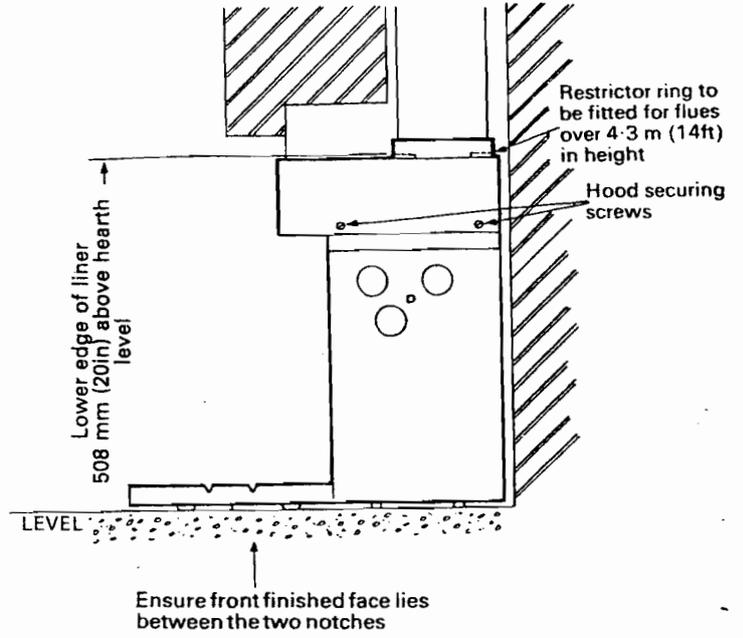

Fig. 4. Boiler in Builders Opening
Fitting the boiler (Fig. 4)
5. Lift the boiler off the transit base, place the boiler in the builders opening, check that the front finished face lies between the notches on the sides of the boiler base (Fig. 4) and that the arrowhead cut out at the front is on the centre line of the hearth.